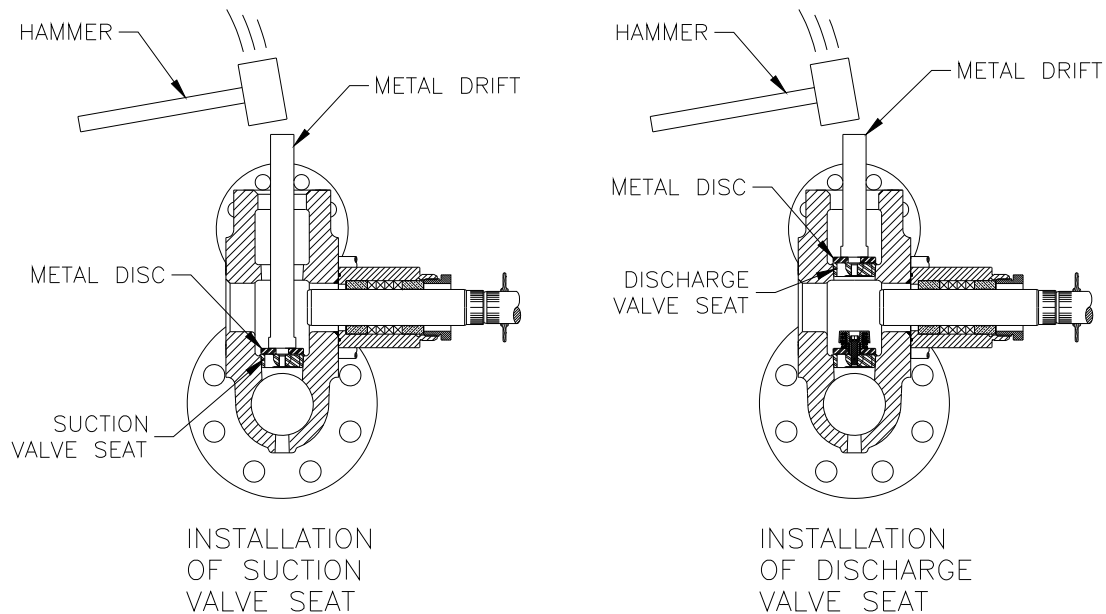

FIGURE 13
- d. Using a metal plate or old worn valve body, drive the seat into place with several sharp blows from a hammer and bar. (See Figure 13.)